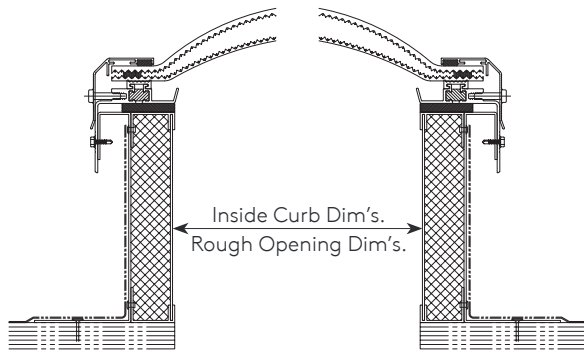

Figure 6.0
- Prepare the roof opening per the manufacturer's dimensions. Most of the time the dimensions will be called out as roof opening dimensions and/or ICD. (See Figure 6.0)